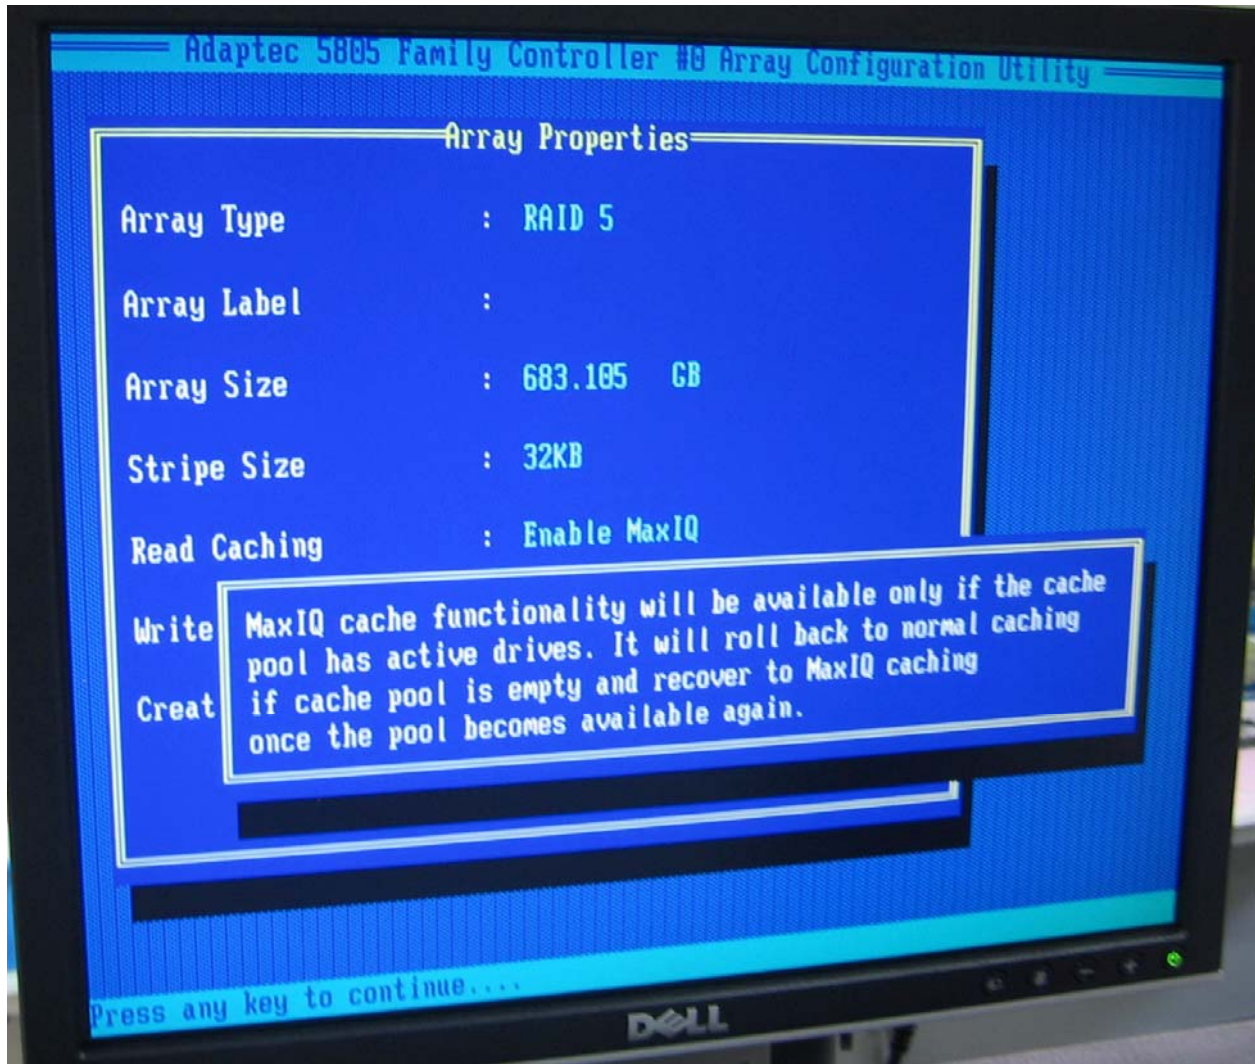

Figure 7-13 Cache Functionality
15. In **Cache Warning** press **Enter**. (Figure 7-13).